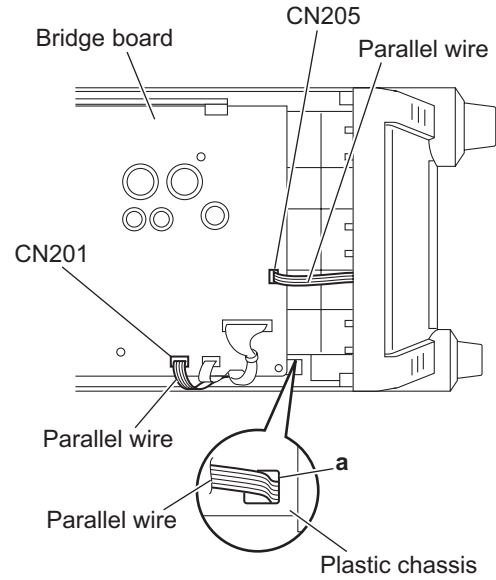

Fig.5
- (3) From the top side of the main body, disconnect the parallel wires from the connectors (CN201, CN205) on the bridge board. (See Fig.5.)
When reassembling, pass the parallel wire through the hole a on the plastic chassis before connecting the parallel wire to the connector CN201 on the bridge board. (See Fig.5.)